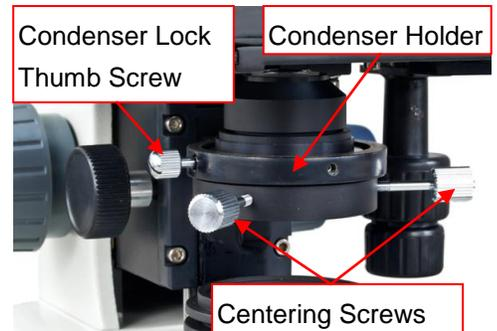

Fig. 7
- Loosen the condenser lock thumb screw, pull down the condenser and take it off, insert the dry darkfield condenser in, and tighten the condenser lock thumb screw (See **Fig. 7**).